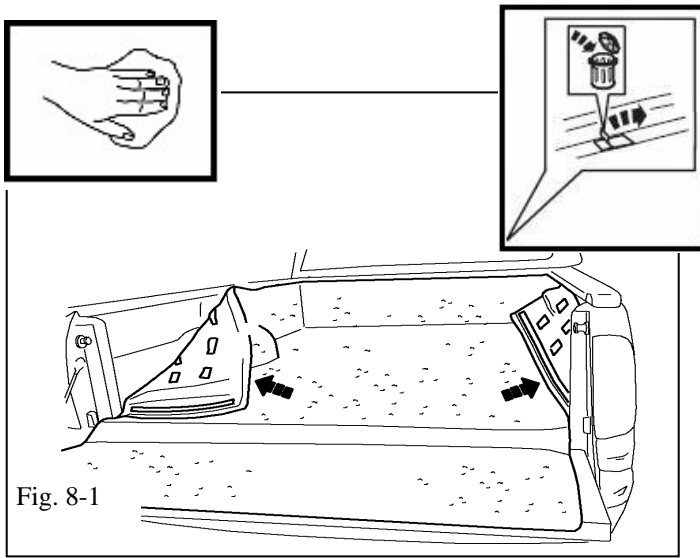

Fig. 8-1
- (a) Rear vertical edge of BedRug should be positioned to match D-pillar surface. Start at front and working rearward begin removing film from fasteners bottom to top and from front to back. Firmly press the BedRug sidewall for 15 seconds to ensure adhesive attachment. Repeat for other side. (Fig 8-1)